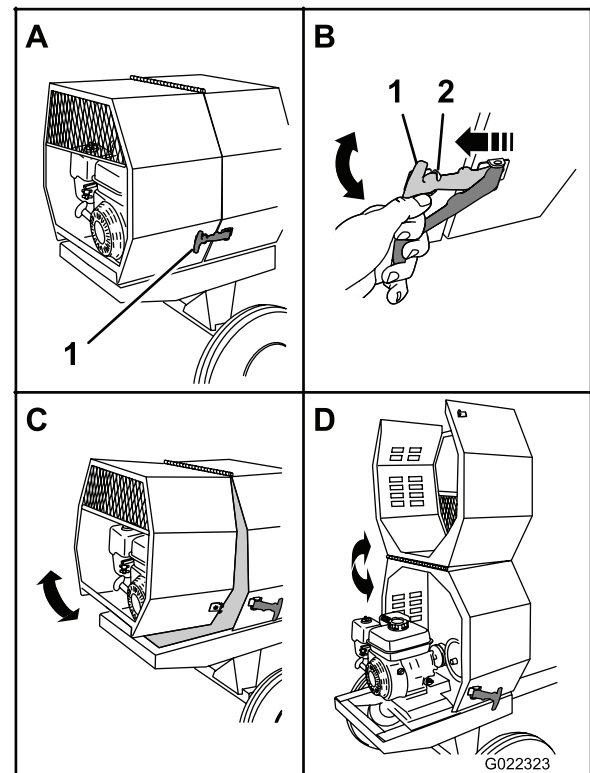

Figure 25
1. At the side of the machine where the front cowl and rear cowl meet, grasp the latch and pull it off from the latch anchor on the rear cowl (Figure 25).
3. Rotate the rear cowl up and forward until it is fully positioned on top of the front cowl (Figure 25).
1. Rotate the rear cowl rearward and down until it is flush on the frame of the machine (Figure 25).
3. Repeat step 2 on the opposite side of the machine (Figure 25).